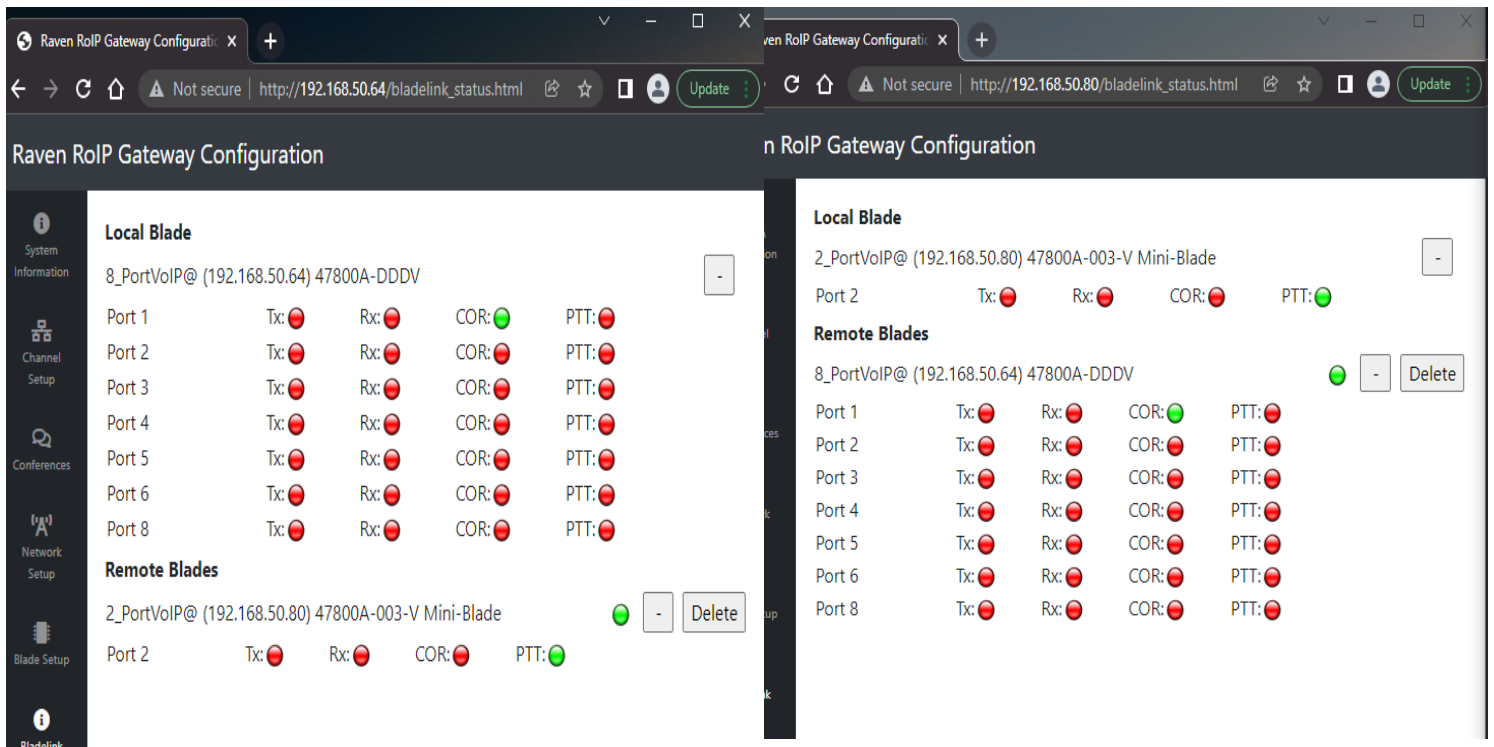

Figure 6-5: COR input on Port 1 on the sever Blade and PTT output on Port 2 on the non-server Blade indicating Blade-Link is working.
14. Confirm when there is a COR input in the ports chosen in steps 8 and 11, there is a PTT on the opposite side. Figures 6-5 and 6-6 shows Blade-Link properly working. ****In order for audio to send between the two blades, you need an RTP stream. This is outlined in Section 5.1 RTP Streaming Audio from a Channel to another RTP Device. ****